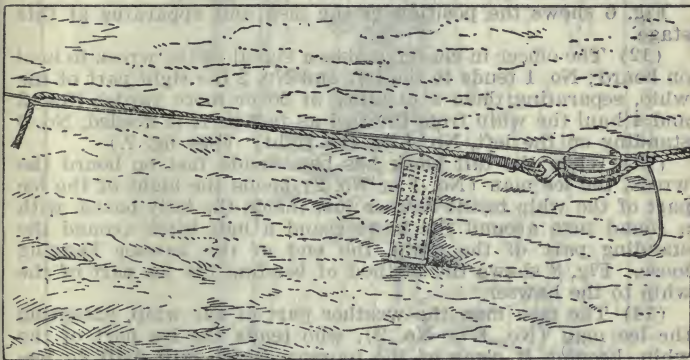

FIG. 5.—Manner in which shot line is bent to whip and tail.
(8) In the meanwhile No. 4 unloads and carries the crotch to a point on a line between the sand anchor and wreck, at a suitable distance from the water, on the bluff of the bank, if possible, and opens it wide, span on the left, the legs forming a straight line parallel with the beach, and then carries the breeches buoy and end of hawser to a point in front of the crotch, and as near the water as possible. If the wooden buoy block is used, he reeves the end of the hawser through it and attaches the tally board.
(9) Nos. 3 and 4 stretch the tackle from the sand anchor toward the crotch (3 at outer block, 4 at inner or white block), remove the straps, leaving it clear and ready to be placed upon the hawser.
(10) If a threefold tackle is used, No. 4 hooks the inner (white) block into the sand-anchor pennant.
(11) Communication being made with the wreck, No. 1 takes a round turn and two half hitches with the shot line around both parts of the whip immediately behind the block, while 2 makes a half hitch over the end of the tail of whip block with the bight of the shot line. (See fig. 5.)